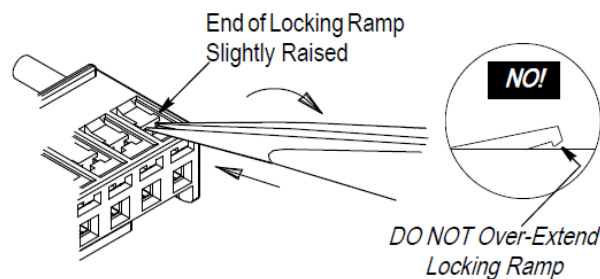

Figure 4
4. Slightly squeeze the tweezer, and slide the tweezer tips along the locking ramp. Slowly pivot the tweezer downward so that the end of the locking ramp raises slightly. **Note:** only enough to clear the contact locking window. See Figure 4.